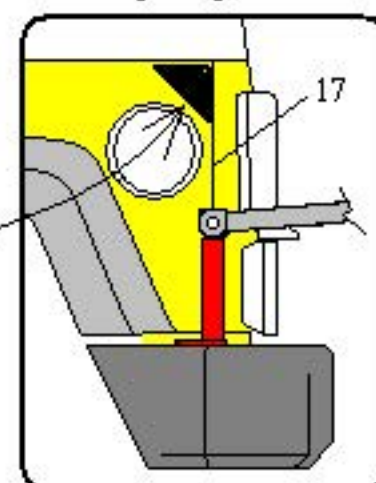

Fig. 12c
- 19- Refer to page 9 Fig. 11b loosen jam nut (9) and turn rubber isolator knob (9a) counter clockwise to pull the rubber isolator (21) away from vehicle body. Remove from Bag#3 located in your hardware kit both black adhesive backed Triangular wear plates. As shown on page 9 Fig. 11b and Fig. 12c peel off the protective film from the back of the Black Triangular wear plate and place on the driver's side vehicle body just behind rubber isolator (21) as shown in Fig. 12c so that the Wear plate aligns with the vertical body seam (17) of the vehicle. Apply the same procedure to the opposite side. Once both Black Triangular wear plates are in place tighten rubber isolators (21). At the same time the isolators are tightened against the wear plates pull out on the Support Bar "C" so that a fair amount of pressure is exerted against the wear plate. Apply the same procedure to the opposite side this will prevent excessive sway of the roof racks rear section. Installation is now complete.
- 20- Should the Gobi roof rack need to be retracted for vehicle roof top extraction be sure to loosen both jam nuts (9) and fully unscrew both rubber isolators (21) to clear the vehicle side body and prevent damage to the rubber isolators. When extraction of roof top is completed retighten rubber isolators in place.